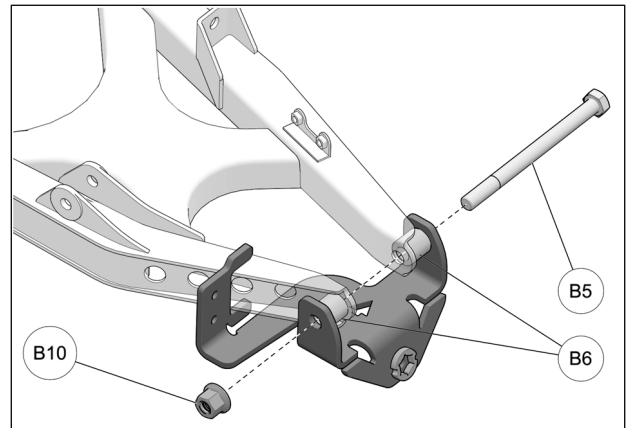

Fig. 8
9. Insert new M14x180mm bolt (**B5**) through anchor bracket, bushings (**B6**), suspension arm and wheel knuckle. Secure assembly with the provided M14 nut (**B10**). Hand-tighten only at this point. See Fig. 8